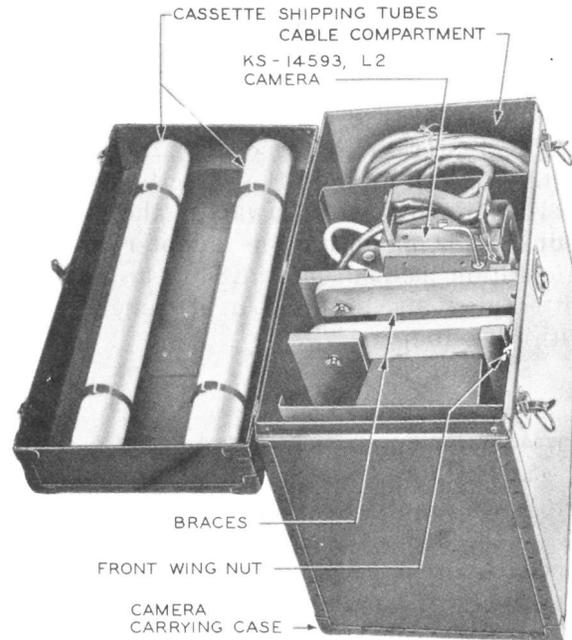

Fig. 1 - Camera in Carrying Case
4.01 Remove the camera from the carrying case as follows. Unlatch and swing back the cover of the carrying case. Loosen the front wing nuts on the two braces which hold the camera in the case, as shown in Fig. 1. Swing the braces away from the camera. Lift the camera from the case, taking care that the flash indicating windows on the camera hood do not strike the wing nut or bolt on the adjacent vertical portion of the brace in the case. Place the camera on the floor or on a suitable support convenient to the location where it is to be used.
**5.10** If additional photographs are not to be taken, mount the empty cassette in the trigger side of the camera to insure that a cassette with a magnetic insert will be available when the camera is next used. Mount the cover on the camera. Remove power from the power unit. Unscrew the camera cable plug locking ring and remove the plug from the jack on the power unit. Place the camera and power unit in their carrying cases. When placing the camera in its case, take care to position it so that the brace farther from the cable compartment engages both portions of the hood of the camera (Fig. 1). This position of the camera will prevent distortion of the hood by the brace. Also, make sure that the camera pilot lamp cap clears the vertical portion of the adjacent brace in carrying cases in which the brace is not notched at this point.